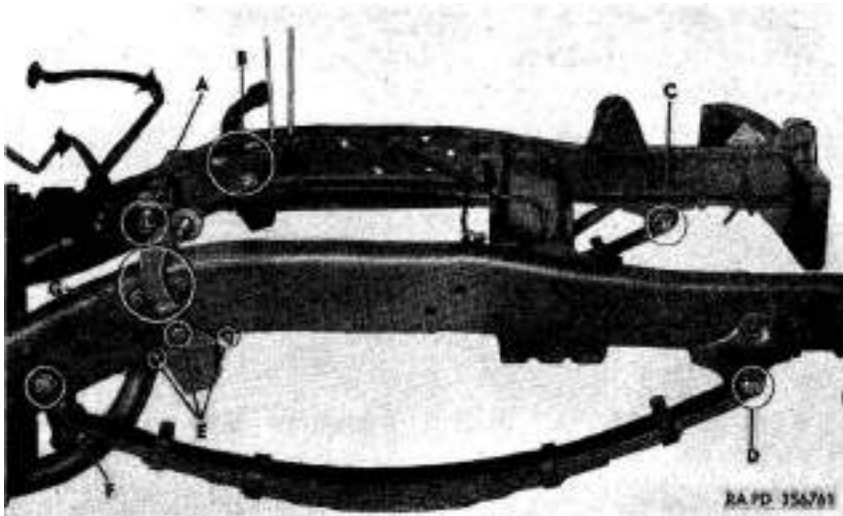

Figure 30. Front suspension disconnect points.
a. *Remove Front Spring Assemblies and Shock Absorber Frame Brackets (fig. 30).*
- (1) Install front shock absorber frame brackets and front spring torque arrester assemblies (fig. 30) (two 5/8-18NF x 2 cap screws (G, fig. 30) , two $\frac{5}{16}$ -inch internal-external-teeth lock washers, three $\frac{3}{8}$ -18NF nuts (B, fig. 30), two $\frac{3}{8}$ -24NF x 1 cap screws, (E, fig. 30), two $\frac{3}{8}$ -inch lock washers, and two $\frac{3}{8}$ -24NF nuts, each side).
- (2) Install front spring assemblies complete with shackles (fig. 30). This includes installation of spring bolts (D and F, fig. 30), $\frac{3}{4}$ -16NF tri-slot nuts, and new $1\frac{1}{8}$ x $1\frac{1}{4}$ cotter pins (A and C, fig. 30).